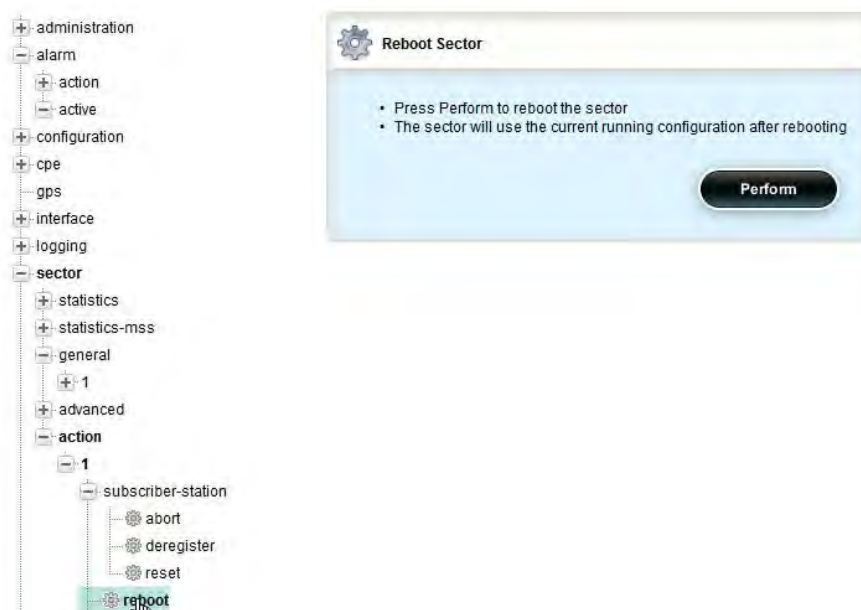

Figure 62 Reboot Sector Action
- **Reboot.** Hit Perform and the current sector will be rebooted (Figure 62)